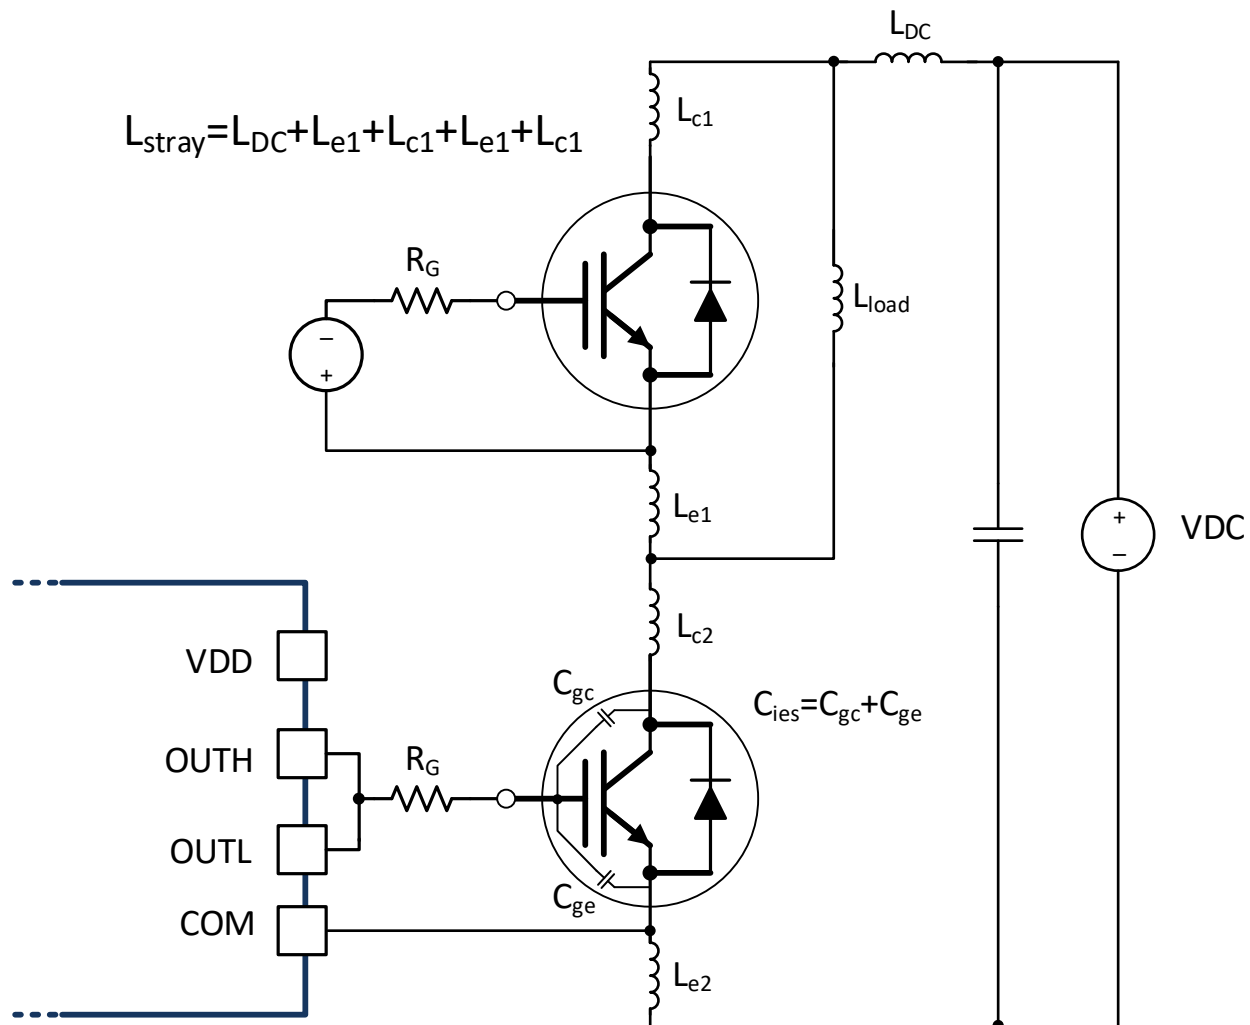

图 9-6. Stray Parasitic Inductance of IGBTs in a Half-Bridge Configuration
- L_{stray} is the stray inductance in power switching loop, as shown in FIG 9-6.